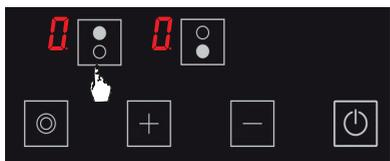

Figure 15
2. Press the upper hob selection key (⏏) again. (See Fig. 15)